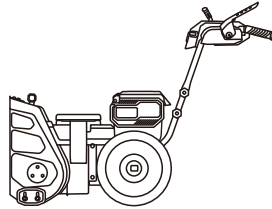

Fig. 2D
3. Raise or lower the upper handle and select the appropriate height, re-assemble the upper locking knobs and bolts; then tighten the two lower locking knobs to secure the lower handle. (Fig.2D)